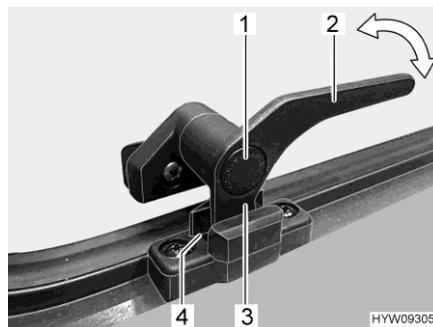

Fig. 59 Catch lever ("continuous ventilation" position)
- "Continuous ventilation" (Fig. 59)
- Press the safety knob (Fig. 59,1) and keep it pressed.
- Turn the catch lever (Fig. 59,3) a quarter turn towards the centre of the window.
- Return the catch lever to its initial position. Move the locking catch (Fig. 59,3) on the catch lever into the recess of the window catch (Fig. 59,4).
- Release the safety knob (Fig. 59,1).